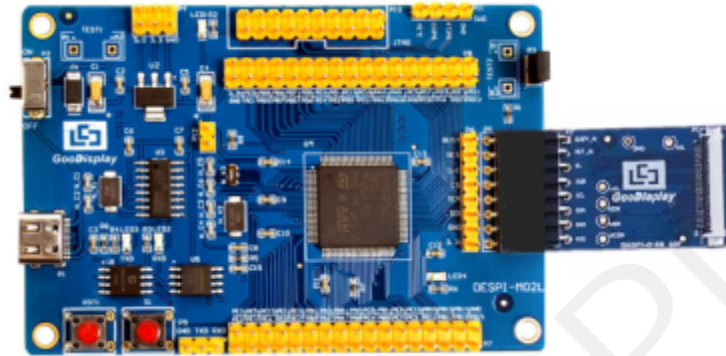

Figure 3 : Connection between DESPI-M02L and DESPI-C102
1) Connect DESPI-C102 to DESPI-M02 as shown in Figure 3. Connect e-paper FPC to DESPI-C102 as shown in Figure 4. (Pay attention to the direction of the e-paper.)